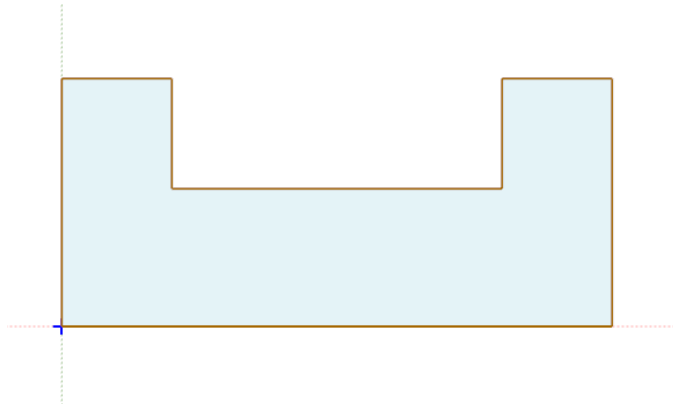

Figure 2-71 Sketch for Tutorial 2
14. Press the Esc key twice to exit the Line tool. The sketch after drawing the lines is shown in Figure 2-71.